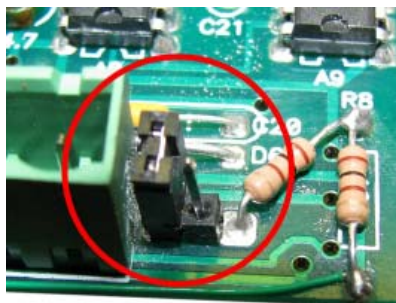
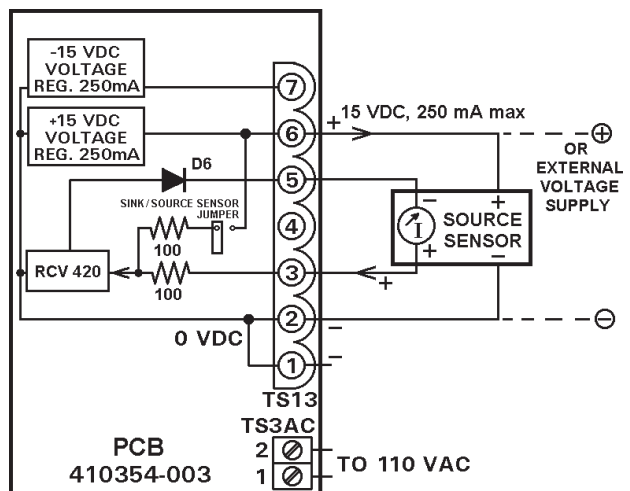
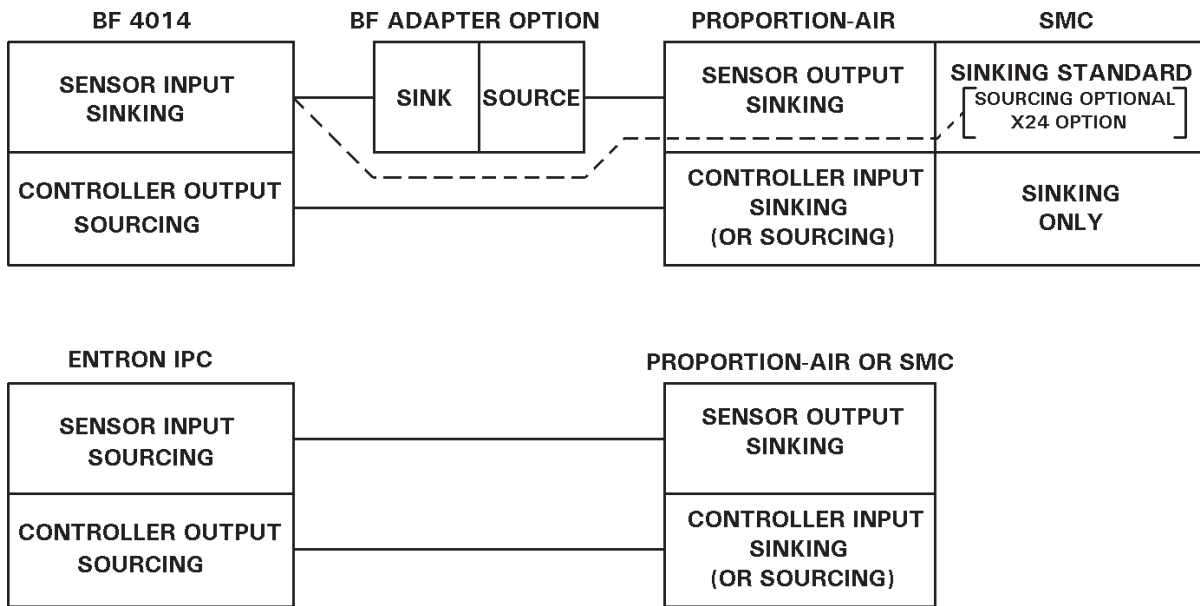

Figure 7-8. Sourcing Sensor Jumper detail
Figure 7-7. 410354-003 Sourcing Sensor Wiring Logic
Figure 7-11. Sinking/Sourcing Block Diagram
When customer provides a Sourcing Sensor, use information in Figure 7-7 to wire to IPS Option PCB 410354-003 or IPSC Option PCB 410354-004, removing Jumper J1 (see also Figure 7-8).
- * For customers using Sourcing or Sinking Sensor, see Figures 7-7, 7-8, 7-9, and 7-10 (in Section 7.4) and Figure 7-11 (in Section 7.5) for more details.
* For customers using Sourcing or Sinking Sensor, see Figures 7-7, 7-8, 7-9 and 7-10 (in Section 7.4) and Figure 7-11 (in Section 7.5) for more details.